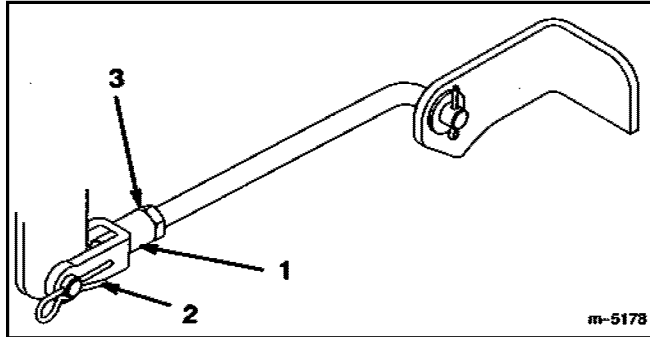

Figure 73
1. To adjust the front-to-rear blade pitch, remove the hairpin cotter from the front trunnion yokes and loosen the jam nuts (Figure 73).